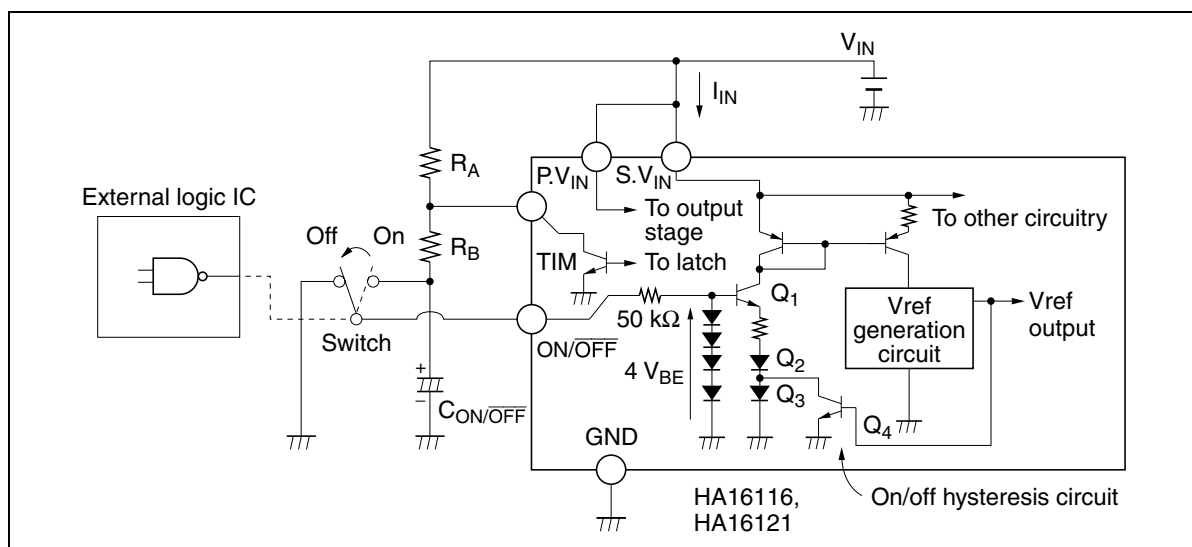

Figure 7.1 IC Shutoff by the ON/OFF Pin
**Note:**  $1 \cdot V_{BE}$  is the base-emitter voltage in transistors on the IC, and is approximately 0.7 V (see the figure 7.1).
As shown in the figure 7.1, these ICs can be turned off safely by lowering the voltage at the ON/OFF pin to below  $2V_{BE}$ . This feature is used to conserve the power in the power supply system. In off state the IC current consumption ( $I_{OFF}$ ) is 10  $\mu A$  (Max) for HA16116 and 150  $\mu A$  (Max) for HA16121.